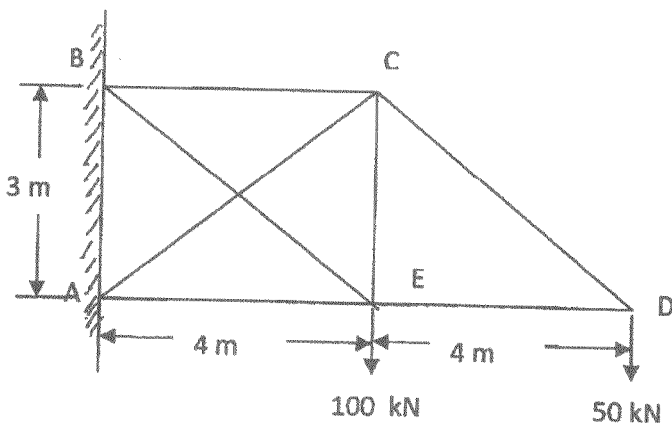

Fig. 6
16. Find the forces in the members of the truss shown in fig. 6.